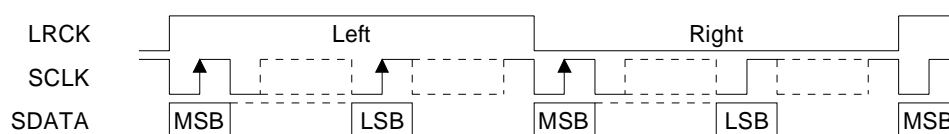

Figure 25. Left Justified Format
**Left Justified:** Figure 25 shows the left justified format with a rising edge SCCLK. Data is